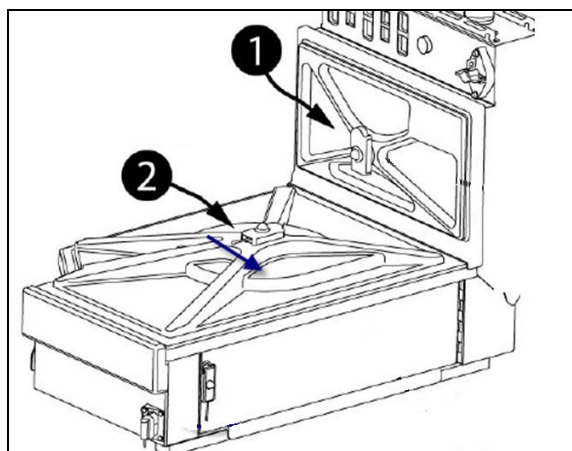

Figure 31: Battery & Electrical Box Covers
- 4.7 Install the electrical box protective cover (number 1, Figure 31)